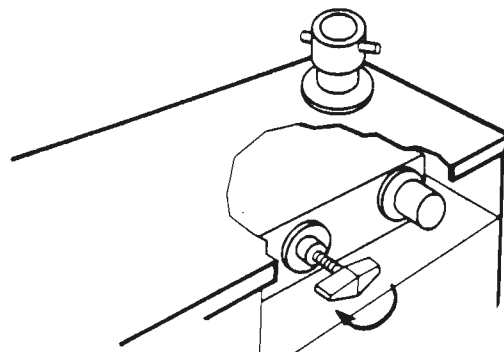

Fig. 4-16. Opening Service Valve
24. Turn service valve clockwise  $2\frac{1}{2}$  turns (Fig. 4-16). This is SERVICE PUMP position (Fig. 4-11B). When test port pressure reaches 20 milliTorr, turn service valve all the way in. Then back off  $\frac{1}{8}$  turn.